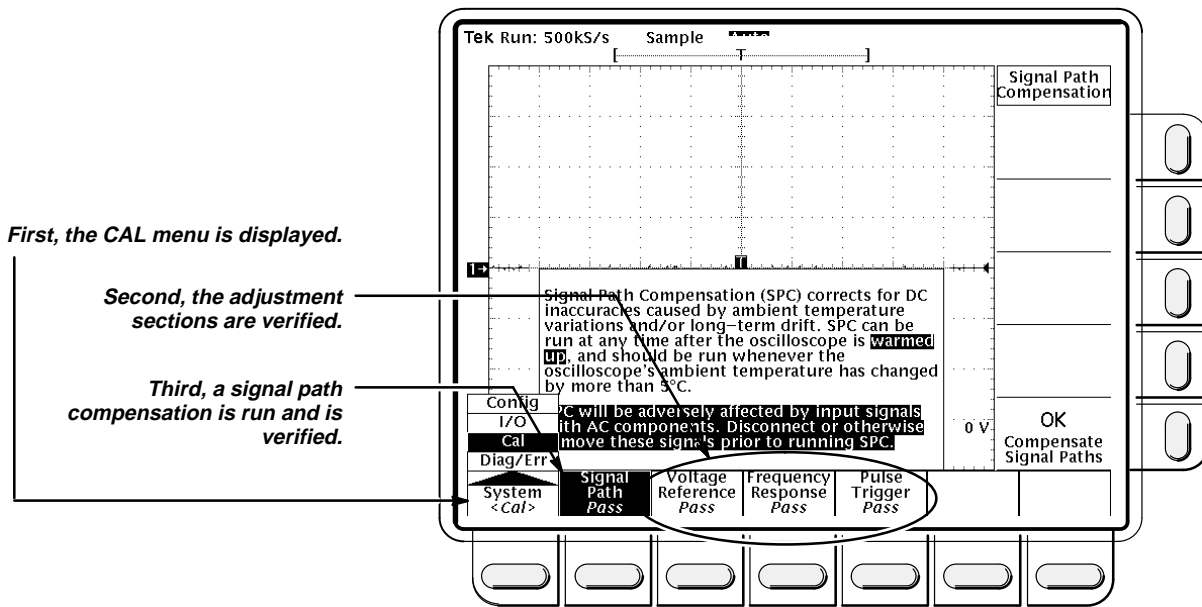

Figure 1-2: Verifying Adjustments and Signal-Path Compensation
- Verify that the word **Pass** appears in the main menu under the following menu labels: **Voltage Reference**, **Frequency Response**, and **Pulse Trigger**. (See Figure 1-2.)
- h. *Confirm signal-path compensation returns passed status:* Verify the word **Pass** appears under **Signal Path** in the main menu. (See Figure 1-2.)